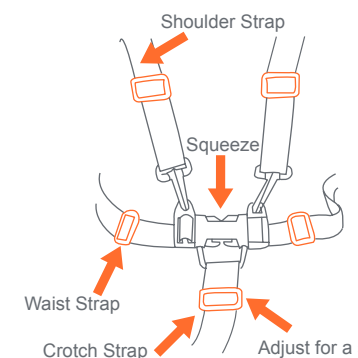

Fig. 14c
- Carefully place the child in the stroller seat and bring the safety harness around the child's waist and over the shoulders. Place the crotch strap between the child's legs. Insert the male end of each shoulder/waist belt into the buckle on the crotch strap. Tighten the harness to be snug around the child's waist and over the child's shoulders (Fig. 14c).